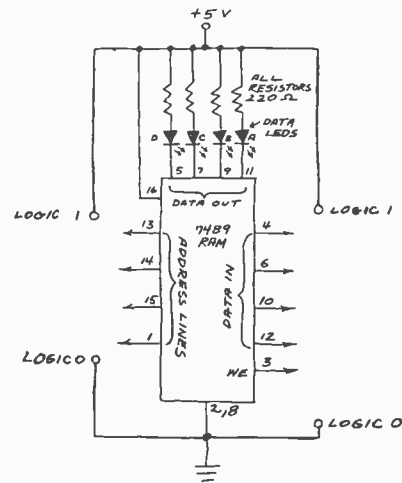

Fig. 2. A RAM demonstration circuit.
**RAM Demonstration Circuit.** You can learn a lot about RAM's by plugging the 7489 into a solderless breadboard along with some LED's to indicate the output data and jumper wires to select addresses and apply input data. Use the arrangement shown in Fig. 2. Take a few minutes to label each jumper with a marked square of masking tape. This will save lots of time later. Connect jumpers you want to be at logic 0 to ground and those at logic 1 to +5 volts. Try loading each storage slot with its binary address for practice.